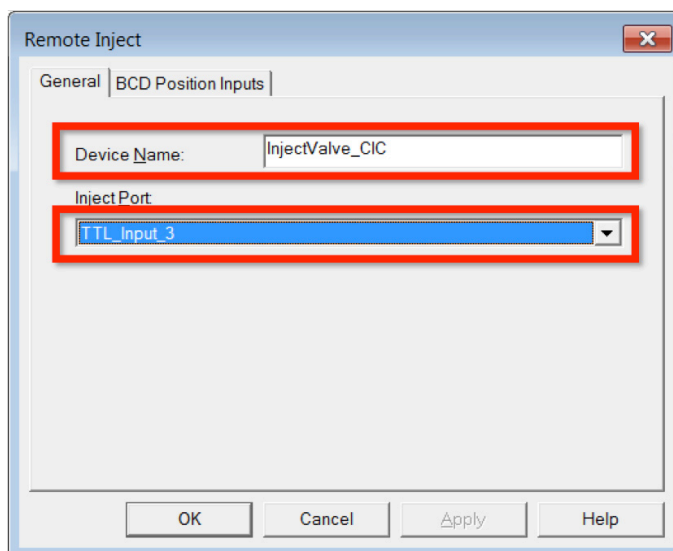

Figure 7. Configuring the Remote Inject Module
2. Select the TTL signal to be used (Figure 7).